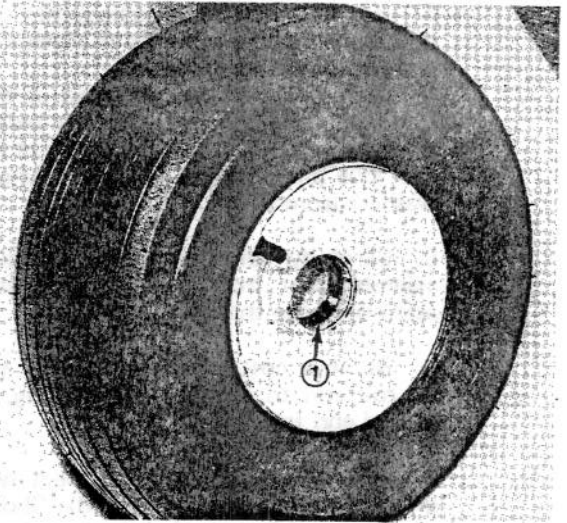

Figure 62
4. If bearing cups were removed from the wheel hub, press them into the hub until they seat against the shoulder (Fig. 62).